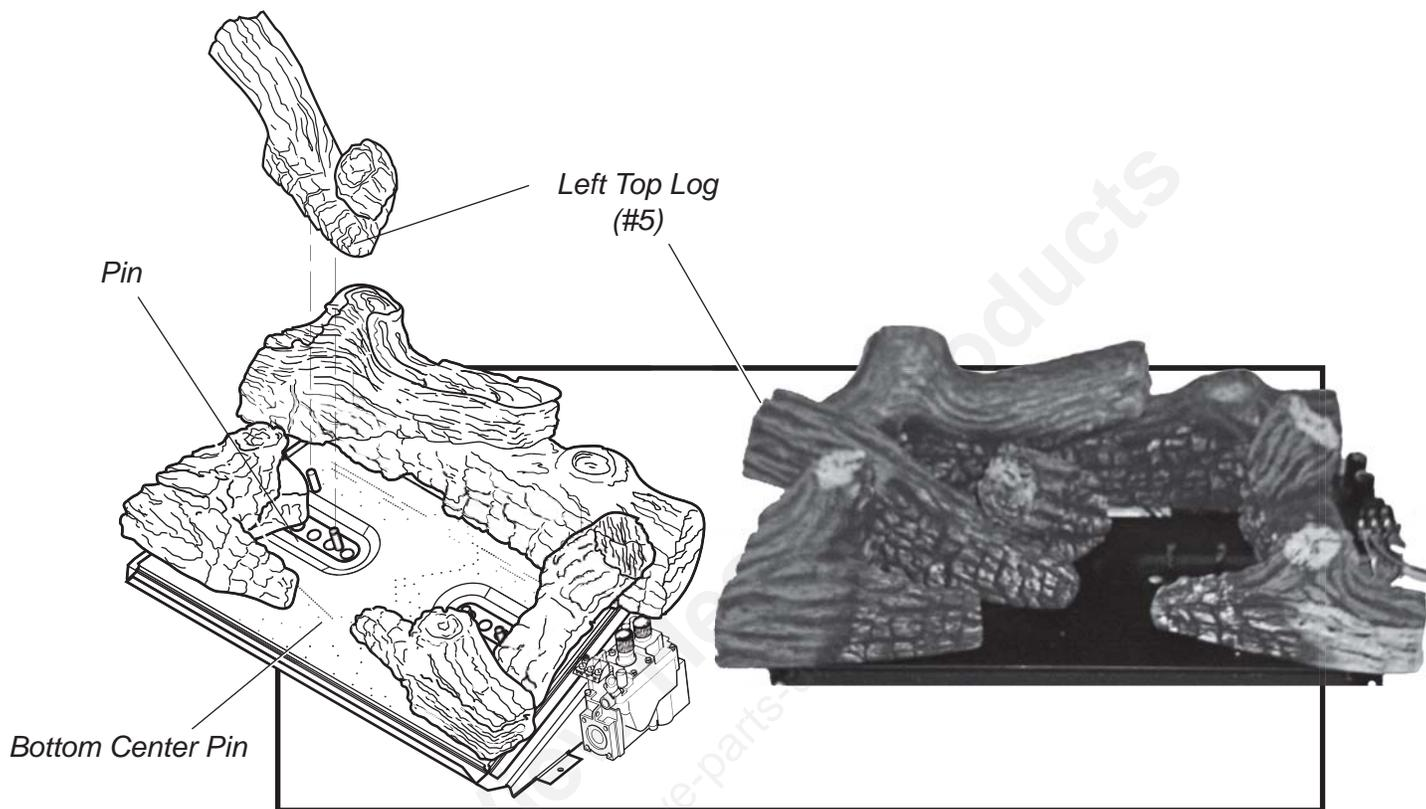

Figure 27 - Installing Left Top Log (#5)
5. Place right end of left top log (#5) on bottom center grate pin. Place left end of left top log (#5) on top of the left base log. See Figure 27.